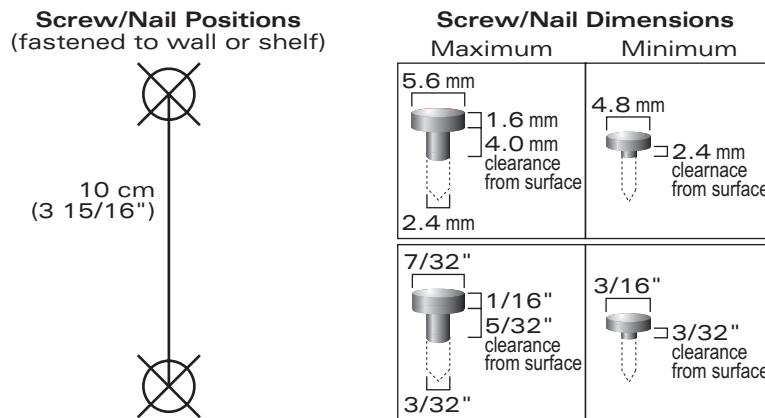

FIGURE 2-2 Mounting Screw Specifications
1. Install two screws in the wall or shelf as shown in Figure 2-2: